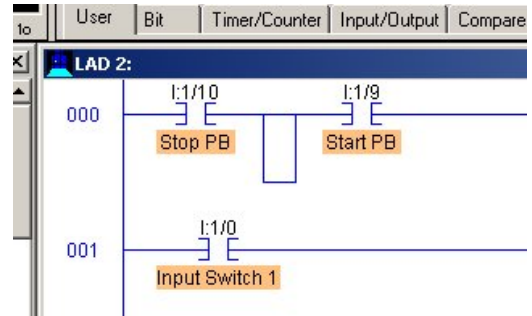

Figure 9
- ❑  A branch will be inserted around I:1/9. Inserting a branch in LogixPro is slightly different than inserting a branch in RSLogix 500. In LogixPro the branch handle can not be dragged to where the branch should end; instead, insert the branch and then drag the instructions onto and into the branch. Insert a branch as shown in Figure 9.